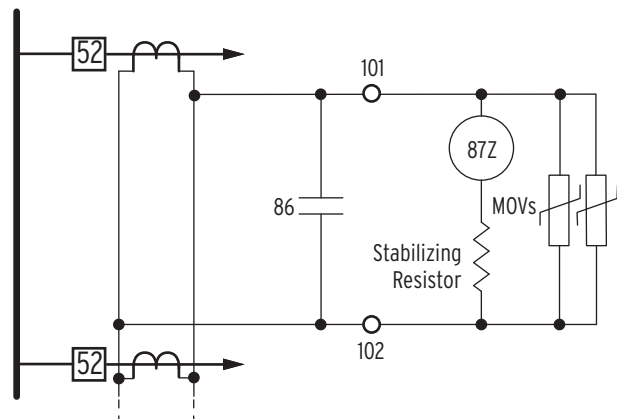

Figure 3 Typical Circuit Connection for High-Impedance Differential Protection
High-impedance differential protection offers immunity against relay misoperation resulting from CT saturation, provided the stabilizing resistor in the circuit has a sufficiently high value. To comply with this requirement, the SEL-587Z uses 2000-ohm resistors, large enough to provide security against CT saturation for through faults. Figure 3 shows typical connections of the lockout contact (86), differential element (87Z), and MOVs.